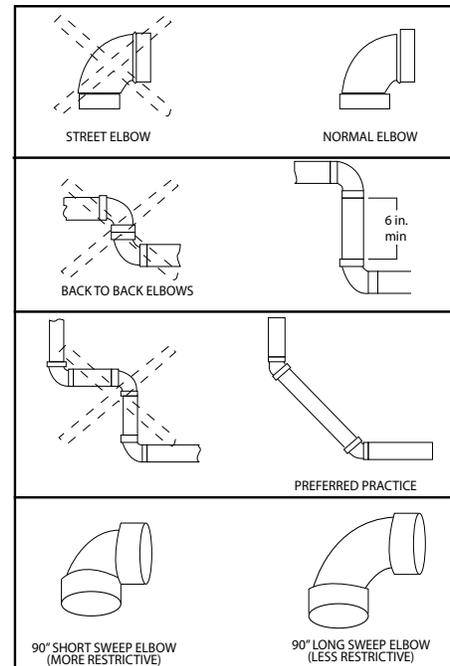

Fig. 14
Note: The information provided in Figure 14 is intended as a guideline for good vent installation practices only and is not intended to restrict venting options beyond those restrictions established by the current edition of the **“National Fuel Gas Code, ANSI Z223.1/NFPA 54”** or any applicable local and state codes.
3. Avoid using 90 degree elbows “back to back” and do not use street elbows. Maintain a minimum 6 in. straight section between elbows. Closely coupled and short radius elbows reduce the venting capacity. Figure 14 shows examples of vent pipe connections.